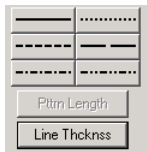

Figure 8-10. Line Pattern, Ptnrn Length and Line Thickness on the Quick Edit dialog.
8.4.2.3. Line Pattern. Set line patterns for line plots using the Line Ptnrn drop-down on the Mapping Style dialog, or the Line Pattern area of the Quick Edit dialog, shown in Figure 8-10.